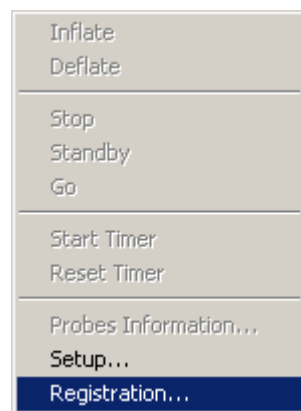

Figure 11 - Registration
3.6.2.1 Open the registration window: from the “PAT™ Control” menu select Registration...see Figure 11